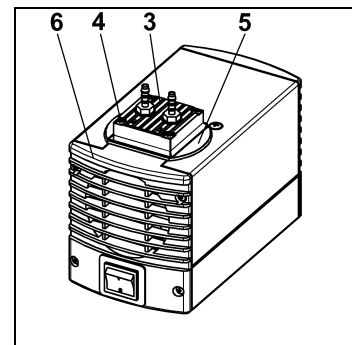
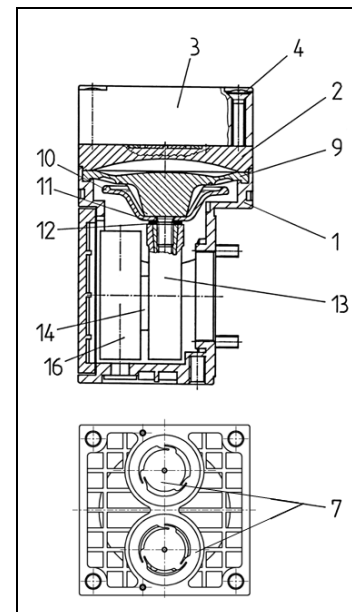

Fig. 4: Removing pump head
Fig. 5: Pump head
1. Mark the position of head plate (Fig. 4/3), cover (5) and cover plate (6) by a drawing line with a pencil. This helps to avoid incorrect assembly later.
2. Undo the 4 screws (4) in the head plate (3) and lift the head plate together with cover (5) off the pump housing.
3. Mark the position of intermediate plate (Fig. 5/2) and housing (1) relative to each other by a drawing line with a pencil.
4. Lift intermediate plate (2) off the housing (1).
1. Remove the valve plates/sealings (Fig. 5/7) from the intermediate plate (2).
2. Check that the valve seats, the head plate (3) and intermediate plate (2) are clean. If scratches or distortion are evident on these parts they should be replaced.
3. Lay the new valve plates/sealings (7) in the recesses in the intermediate plate (2). The valve plates/sealings for suction and pressure sides are identical, as are upper and lower sides of the valve plates/sealings.
4. Check that the valve plates/sealings (7) are not deformed by moving them gently sideways in their recesses.